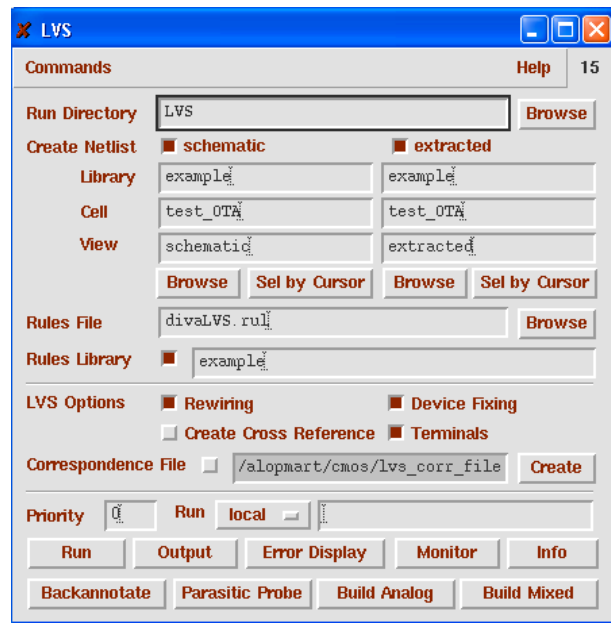

Figure 24. LVS Window
1. In the Virtuoso window that shows the extracted view of the OTA, select **Verify -> LVS ...**. A new window appears (Fig. 24). Select the schematic and the extracted views in the upper left and right areas of the window, respectively. Then click "RUN." The LVS check is performed in background mode. It takes a while, depending on the size of your design.